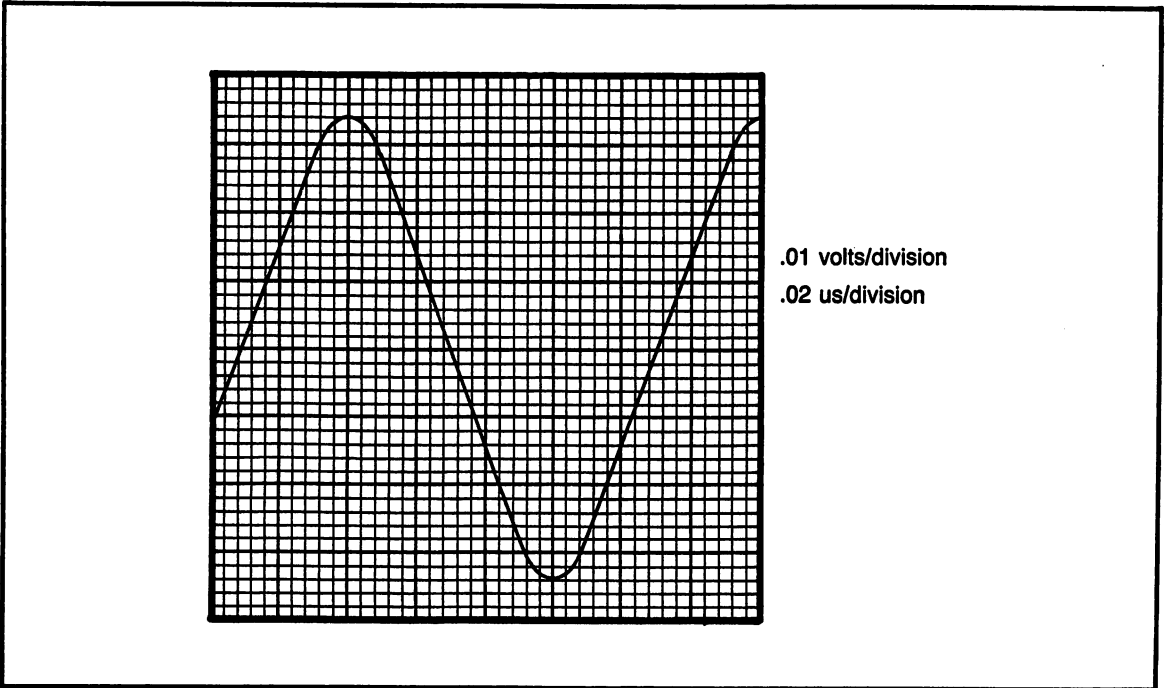

Fig. 11-16. Problem 32.
- (32) Figure 11-16; a) p-to-p voltage b) frequency